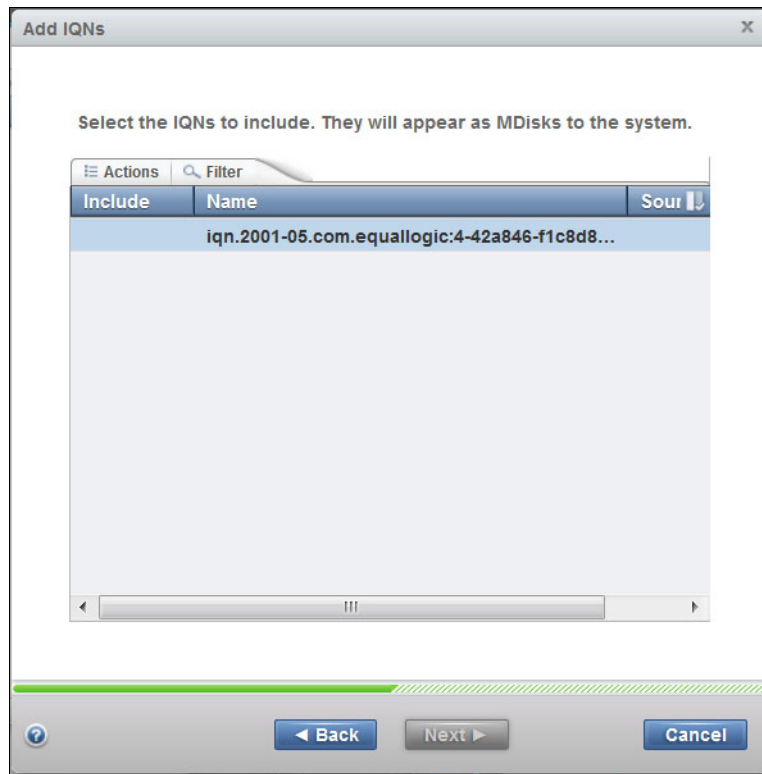

Figure 14-28 Discovered LUNs from the Dell controller
6. The list of discovered targets is displayed in a window with their respective IQNs and source ports. Figure 14-28 shows the sample window showing all of the discovered Dell LUNs.